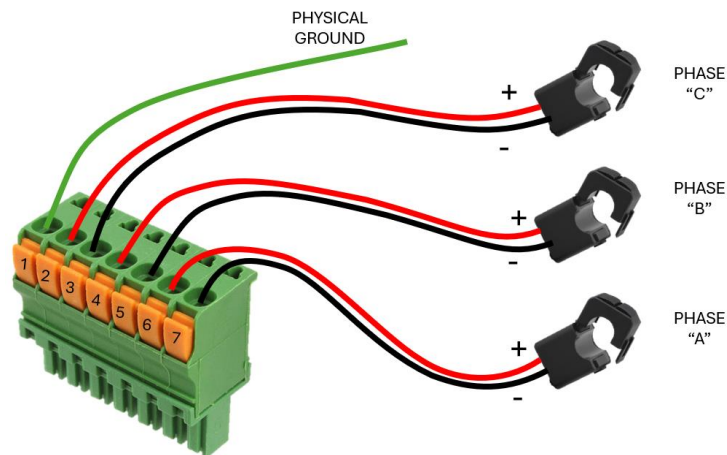
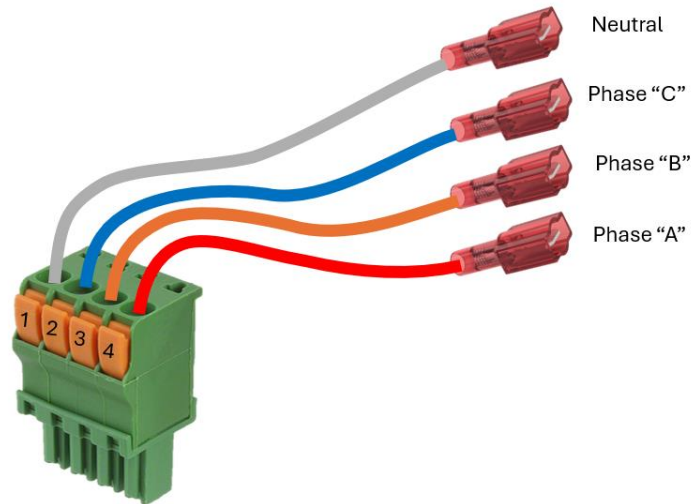

Figure 2. Current transformers connections to sense currents
Figure 4: Voltage sense wiring
NOTE: DO NOT CONNECT THE CONNECTORS IN FIGURE 2 AND 4 TO THE MICRO-METER BEFORE THE MICRO-METER IS SECURELY FASTENED TO ITS LOCATION. SMART MICRO-METER UM-3P-1000 CANNOT BE INSTALLED INSIDE ANY 67 PANELS.
- 10) For Phase “A,” clamp the Phase “A” CT over the Phase “A” wire or cable and connect the secondary leads to position 6 and 7 of Figure 2. Connect the voltage tap of Phase “A” to position 4 of Figure 4.
- 11) For Phase “B,” clamp the Phase “B” CT over the Phase “B” wire or cable and connect the secondary leads to position 4 and 5 of Figure 2. Connect the voltage tap of Phase “B” to position 3 of Figure 4.
- 12) For Phase “C,” clamp the Phase “C” CT over the Phase “C” wire or cable and connect the secondary leads to position 2 and 3 of Figure 2. Connect the voltage tap of Phase “B” to position 2 of Figure 4.
- 13) For the neutral wire, connect the voltage tap of Neutral wire to position 1 of Figure 4.
- 14) For the physical ground wire, connect to the position 1 of Figure 2.
- 19) After the SMART MICRO-METER UM-3P-1000 and its antenna has been connected, the final step is to plug the connectors of Figure 2 and Figure 4 into the SMART METER UM-3P-1000. DO NOT CONNECT THE CONNECTORS IN FIGURE 2 AND 4 TO THE MICRO-METER BEFORE THE MICRO-METER IS SECURELY FASTENED TO ITS LOCATION.